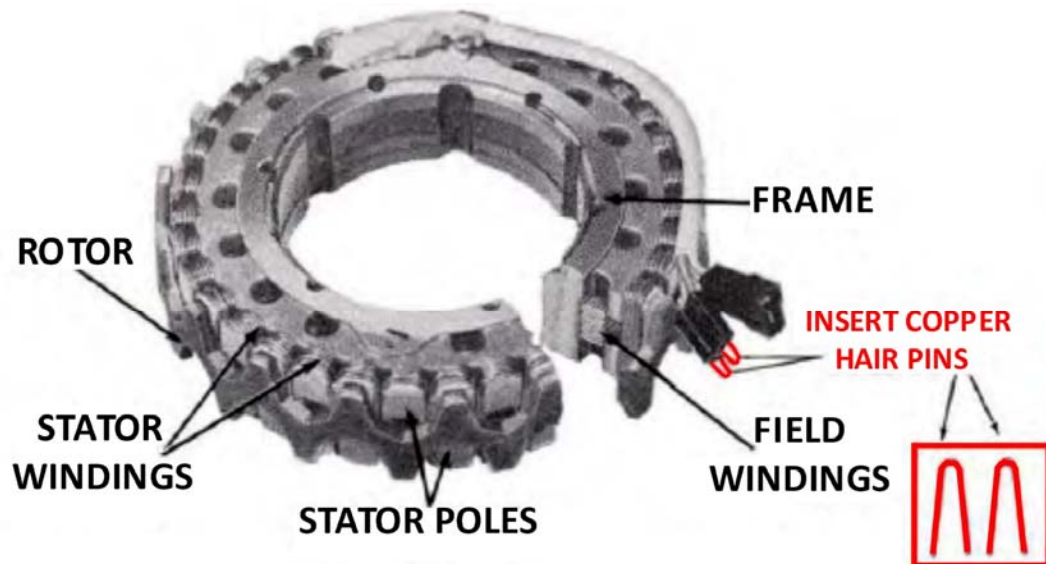

Figure 33
3. Place in each female connector making contact with each terminal, see Fig. 33.
7. When testing for shorted or open field windings leave the two copper hairpins in position as in Fig. 33.